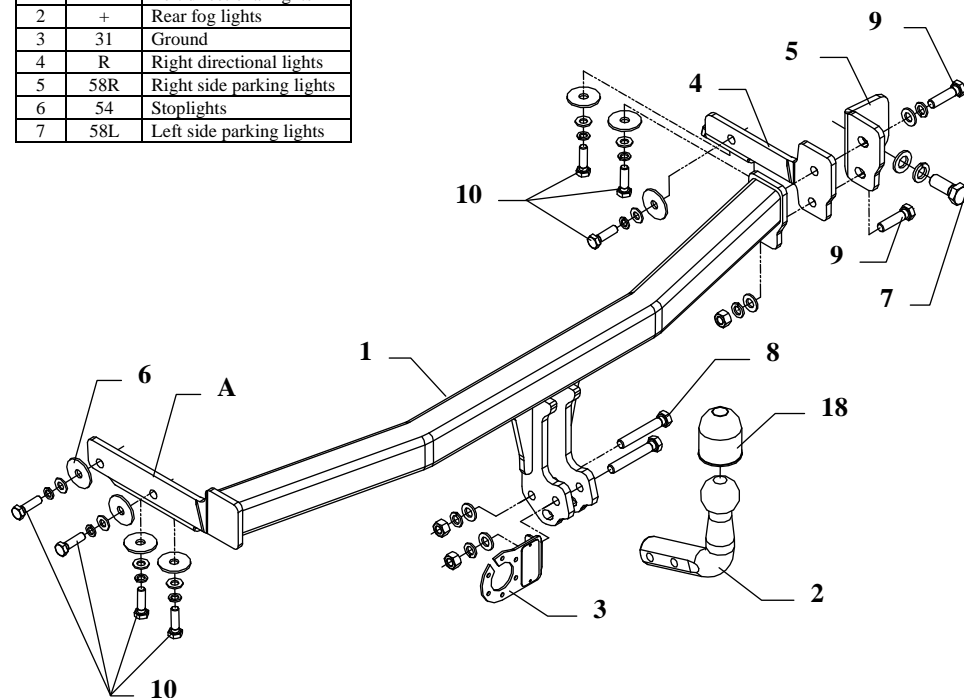
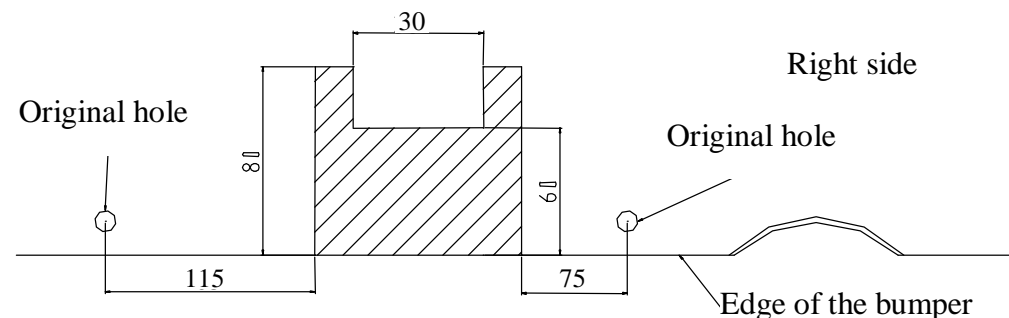

Fig. 1
Fig.2
2. To right chassis member slide bracket (pos. 4) and screw loosely with bolts M10x35mm (pos. 10) through original holes.
3. Put main part of the towbar (pos. 1) (part A in left chassis member) and screw loosely with bolts M10x35 and screw all together with mounted bracket (pos. 4) and angle element (pos. 5) with bolts M12x45mm (pos. 9) as shown in the fig. 1.
4. Angle element (pos. 5) screw with bolt M16x40mm – pos. 7 (instead of original tow handle).
5. Reassemble the muffler and the bumper (after cut out his fragment) see fig. 2
6. Fix tow-ball (pos. 2) and socket plate (pos. 3) using bolts M12x75mm (pos. 8) from accessories.